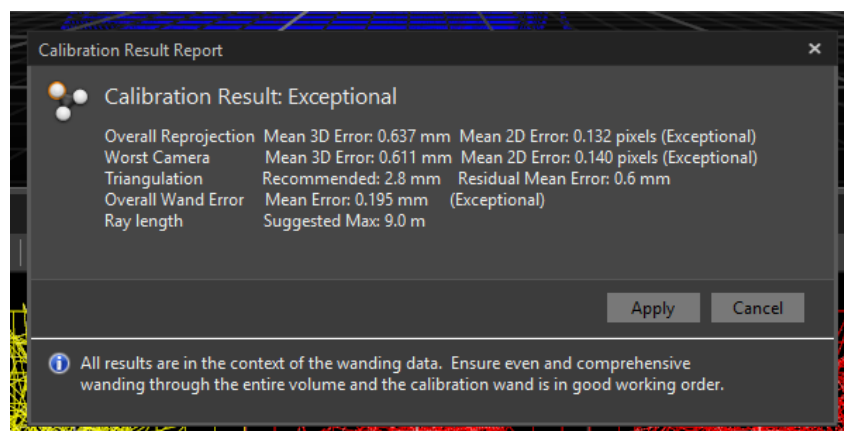

Figure 5: Calibration result (Motive 2.0.1)
- After a brief moment, a prompt with the calibration results will be displayed (Figure 5). If the result is not 'Very High' or 'Exceptional', it is recommended to repeat the calibration process with more sample points.